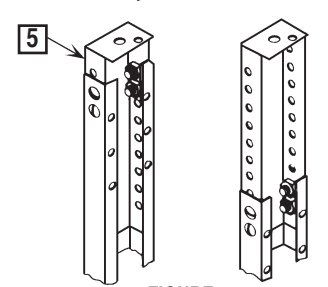

FIGURE 4
- Insert adjustable foot (Item 5) into leg so that the holes in the sides of the foot are aligned with the holes in the sides of the leg. At the desired height, fasten foot to leg with (4) screws and nuts (Items 6 & 7) as provided in **hardware pack 293**. See Figure 4. Repeat procedure for the other legs.